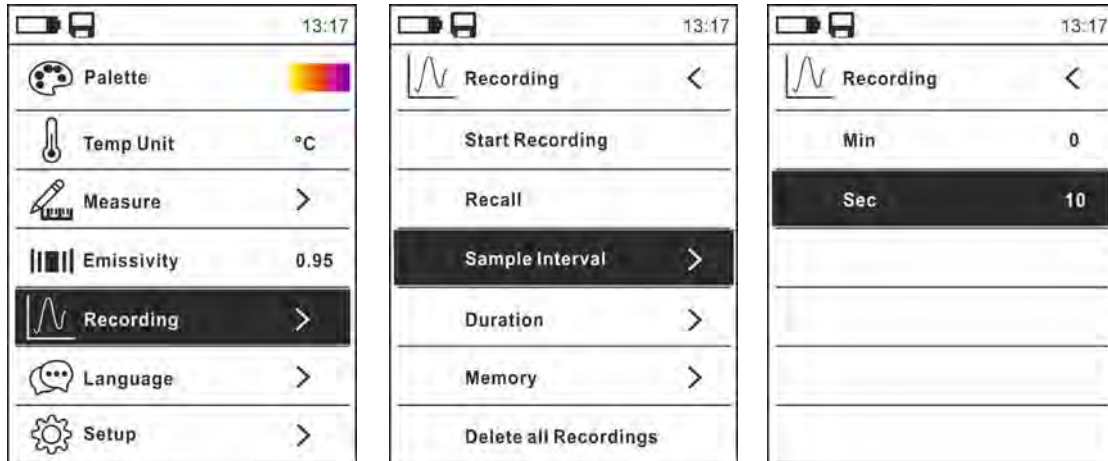

Fig. 31: Data logger function – Setting of the sampling interval
2. Press key **MENU** , select item "Recording" and press key . The screen in Fig. 31 – left side appears on the display.
3. Select item "Sample Interval" (see Fig. 31 – middle) and press key  to select the sampling interval for recording. The screen in Fig. 31 – right side appears on the display.